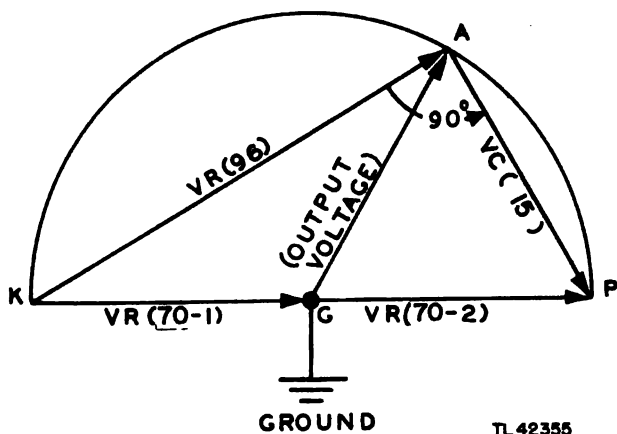

Figure 46. Phase shifter operation, vector diagram.
e. The phase relations existing in the circuit are shown in the vector diagram figure 46. The voltage from *K* to *G* is represented by the vector  $V_R(70-1)$  and that from *G* to *P* by vector  $V_R(70-2)$ . These voltages are in phase and added in series, while the midpoint is at ground potential. The output voltage is represented by the vector  $GA$ , which is the difference between  $V_R(96)$ , the voltage across control 96, and  $V_R(70-1)$ .  $GA$  is also the difference between  $V_C(15)$ , the voltage across capacitor 15, and  $V_R(70-2)$ .  $V_R(96)$  and  $V_C(15)$  are 90° out of phase. Therefore, as control 96 is varied,  $V_R(96)$  varies and point *A* moves around the arc of the semi-circle *KAP*.